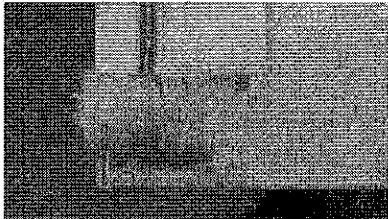

figure 2
- 2.4 Remove the white Fuzzy Weather Strip Pad from the hardware kit. Peel the adhesive cover off of the back and place it on the notched interlock section (see figure 2 below, bottom shown top similar).